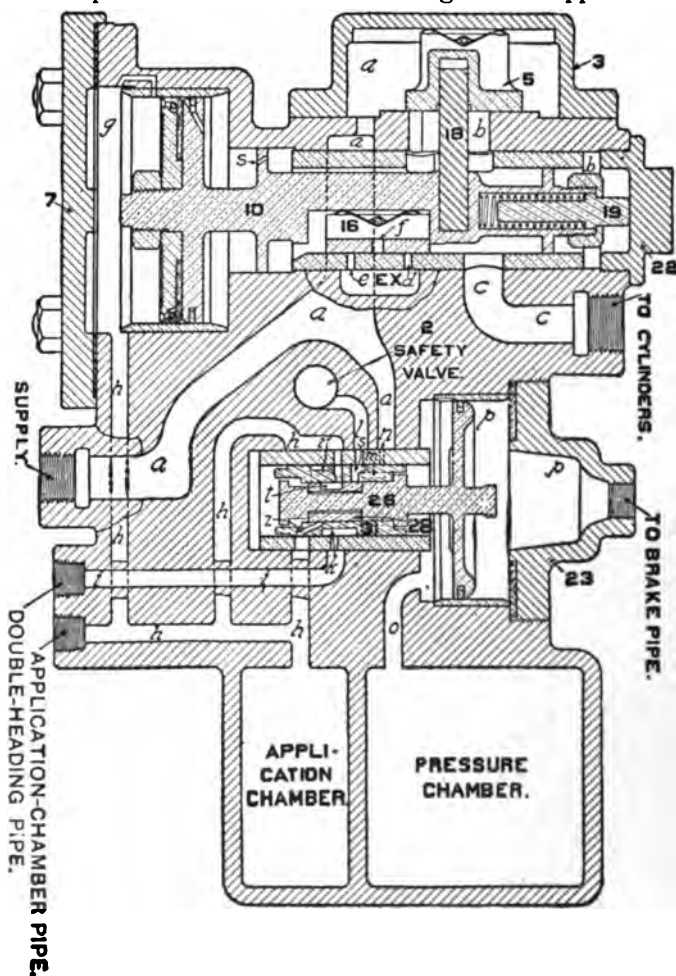

FIG. 274. SERVICE LAP
**SERVICE LAP.** The conditions just described continue until the pressure in the *pressure chamber* is reduced enough below that in the brake pipe to cause the difference in pressure on the two sides of piston 26 to force it and graduating valve 28 to the left until the shoulder on the piston stem strikes the right-hand end of slide valve 31, the position indicated in Fig. 274, and known as **SERVICE LAP**. In this position, graduating valve 28 has closed port *z* so that no more air can flow from the *pressure chamber* to the application chamber; and it also has closed port *s*, cutting off communication to the safety valve. The flow of air past application valve 5 to the brake cylinders continues until their pressure equals that in the application chamber when the graduating spring forces piston 10 to the position shown in Fig. 274, closing port *b*. The brake-cylinder pressure is then practically the same as that in the *application chamber*.